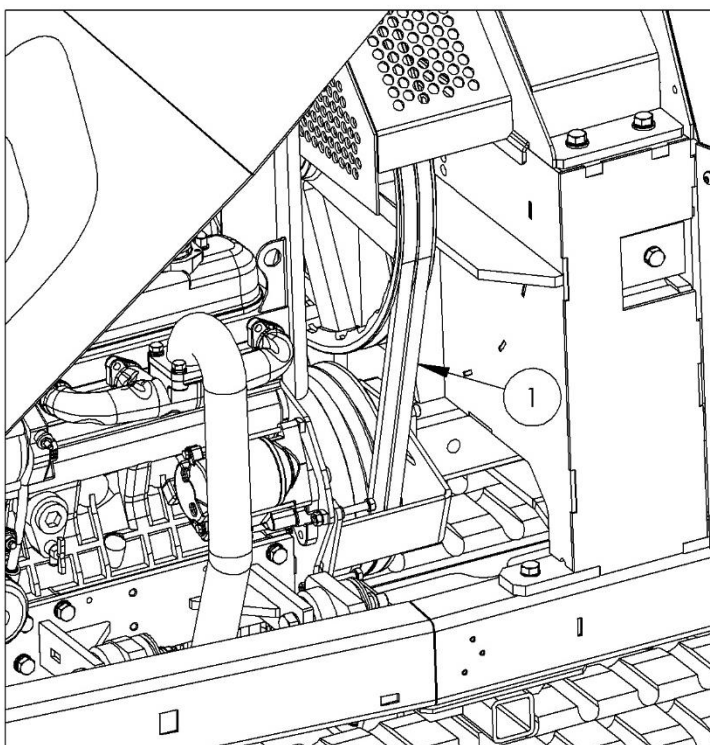

Figure 18
All drive belts are located under the engine cover as shown in Figure 13 and Figure 14 and tension checked at arrows shown in Figure 18. Check and set tension as follows:
1. Slacken clamp screw(s) or nut (6).
2. Hydraulic pump adjuster screw requires its lock nut to be slackened (5).
3. Turn adjuster nut or screw (4) to tension belt until 4.5Kg force at the belt longest centre span deflects by 6mm (see Figure 18). Can be approximated by firmly gripping belt between finger and thumb and twisting. The belt should not be able to be rotated more than 90°.